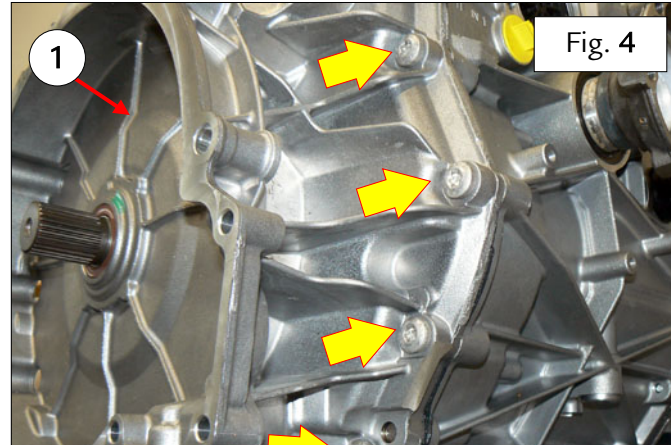

Fig. 4
- On the right hand side of the DCT gearbox, undo and remove the indicated screws – Fig. 4.